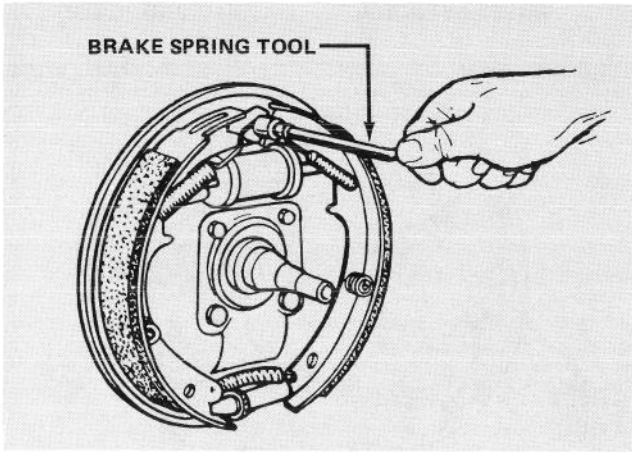

Figure 86
4. Remove shoe return springs (Fig. 86) and automatic adjuster spring. Then remove automatic adjuster cable, cable guide, adjuster lever and shoe guide plate, if used.